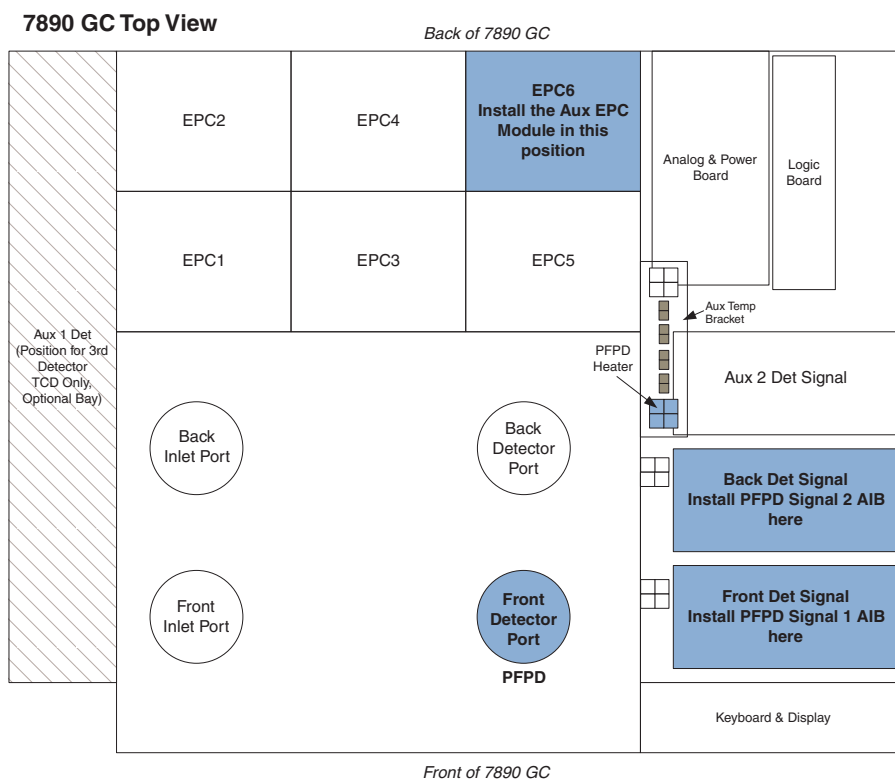

Figure 4.27. Suggested Location for PFPD Components
2. Select the appropriate detector port and flow module position; refer to Figure 4.27.
NOTE: See Figure 4.27 on page 57 for recommended installation positions.
9. Install the AIB board(s) per the Agilent instructions (see Figure 4.27 on page 57 for placement).
2. Scroll to the appropriate Aux EPC position and press **Enter**. Refer to Figure 4.27.
2. Select the appropriate Thermal Aux position (see Figure 4.27).
1. Determine where the AIB board(s) was installed using Figure 4.27.